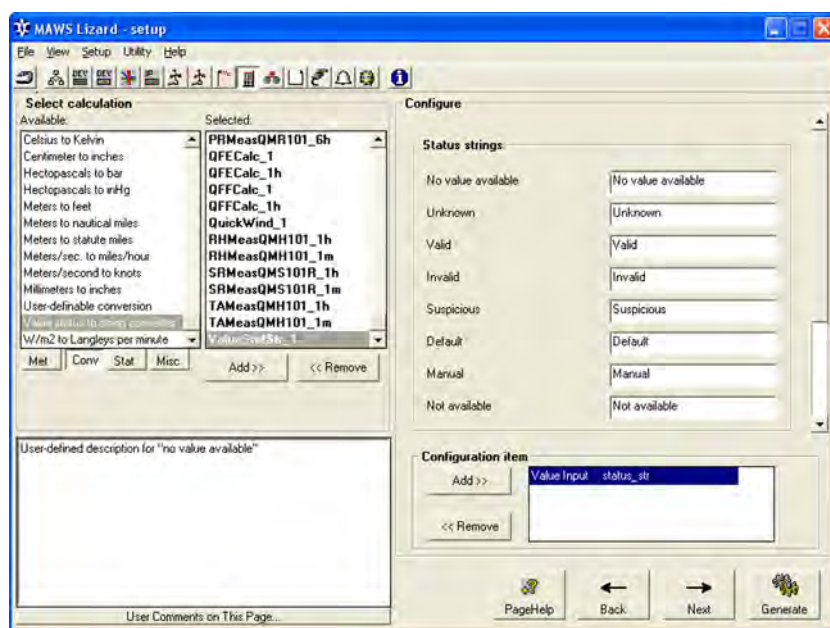

Figure 51 **Calculations View: Configuring Status Strings (1/2)**
The status conversion component shows the status of the data items in textual format other than the default text, for example, in another language. The textual status can be included, for example, in a report. This component is configured in the **Calculations** view as shown in Figure 51 on page 111.
3. Enter the new status string to replace the default status; see Figure 51 on page 111.